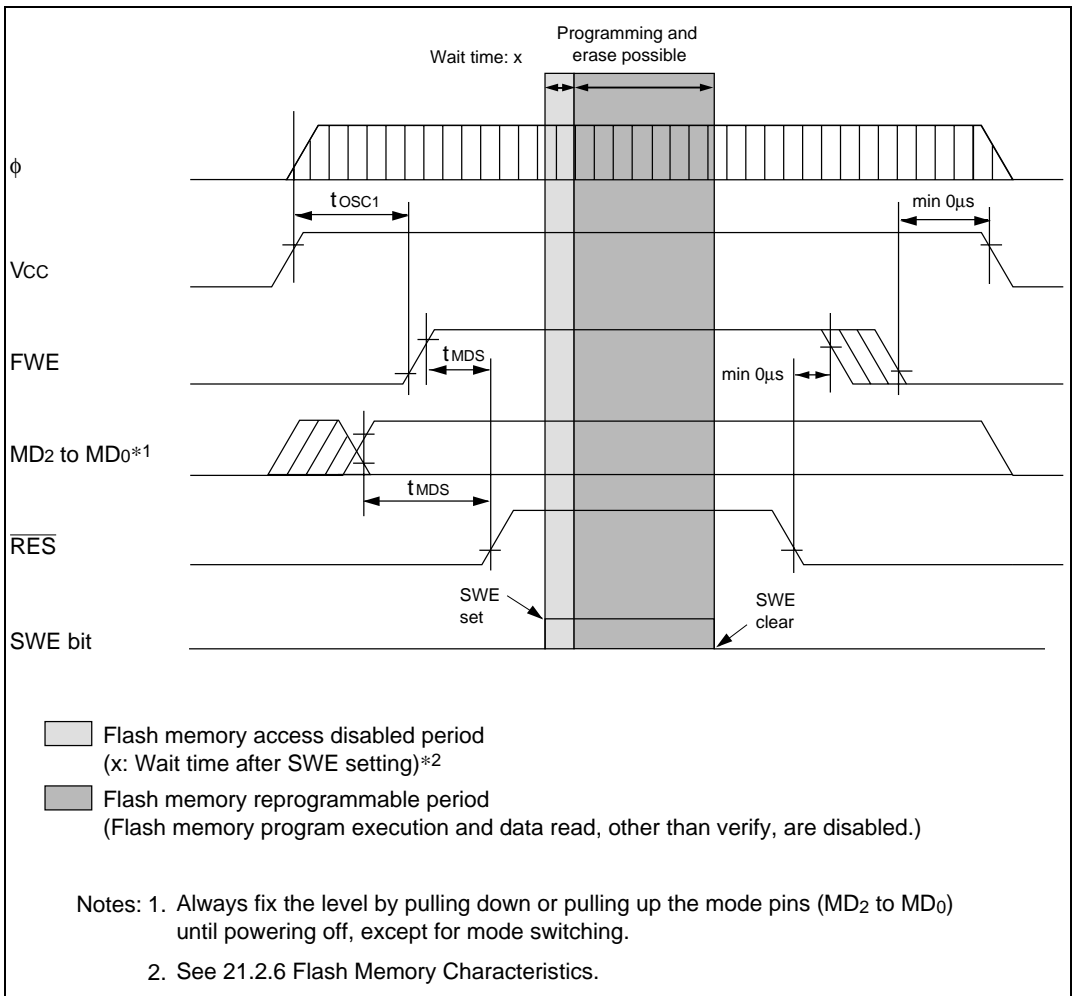

Figure 18.25 Powering On/Off Timing (Boot Mode)
(2) Notes on powering on/powering off (See figures 18.25 to 18.27.)
(3) Notes on FWE pin High/Low switching (See figures 18.25 to 18.27.)